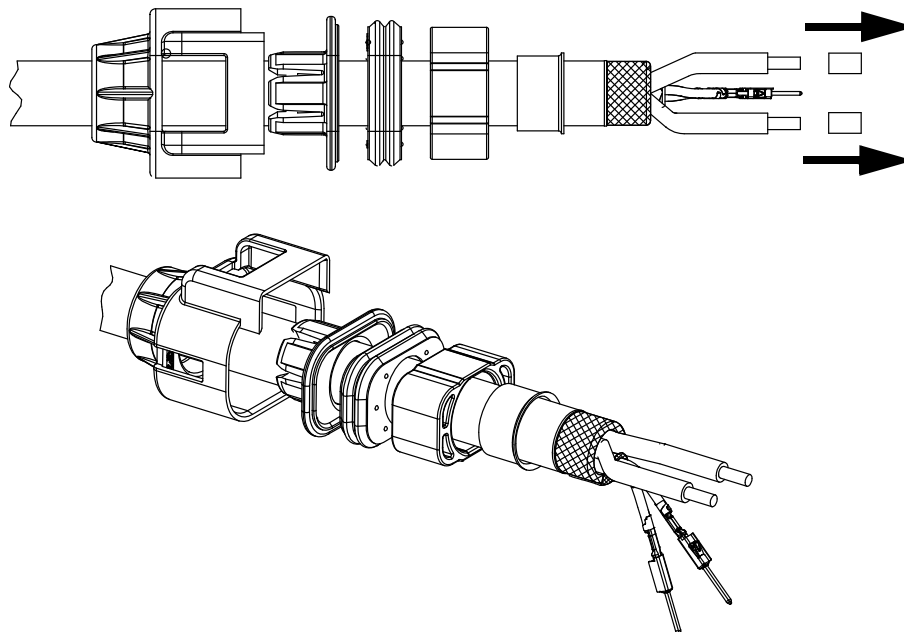

Figure 12
10. Separate the larger conductors and strip to length as shown in Figure 12. Refer to Application Specification 114-18148-1 for strip length.